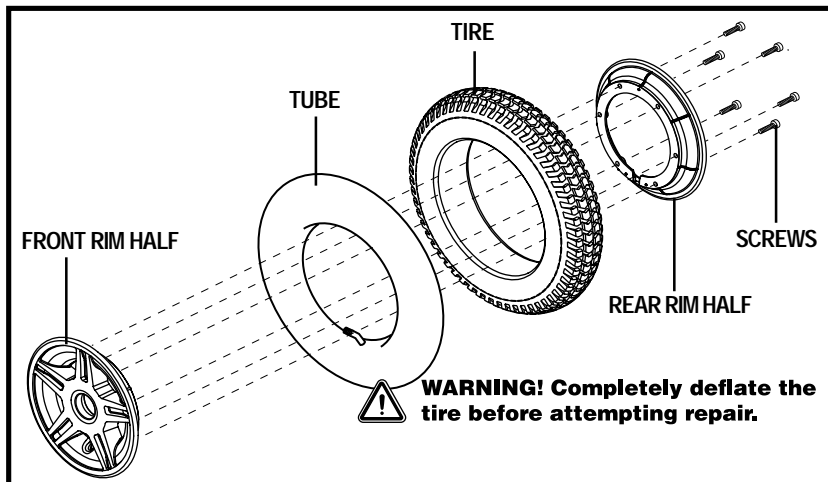

Figure 21. Quantum 614 Series Drive Wheel Disassembled
6. Remove the screws from the rim assembly and separate the front and rear rim. See figure 21.